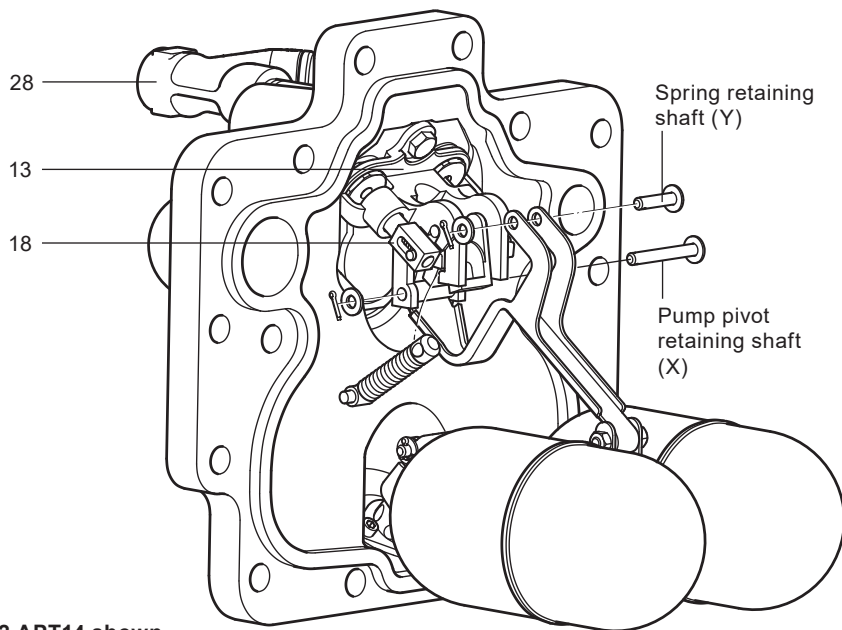
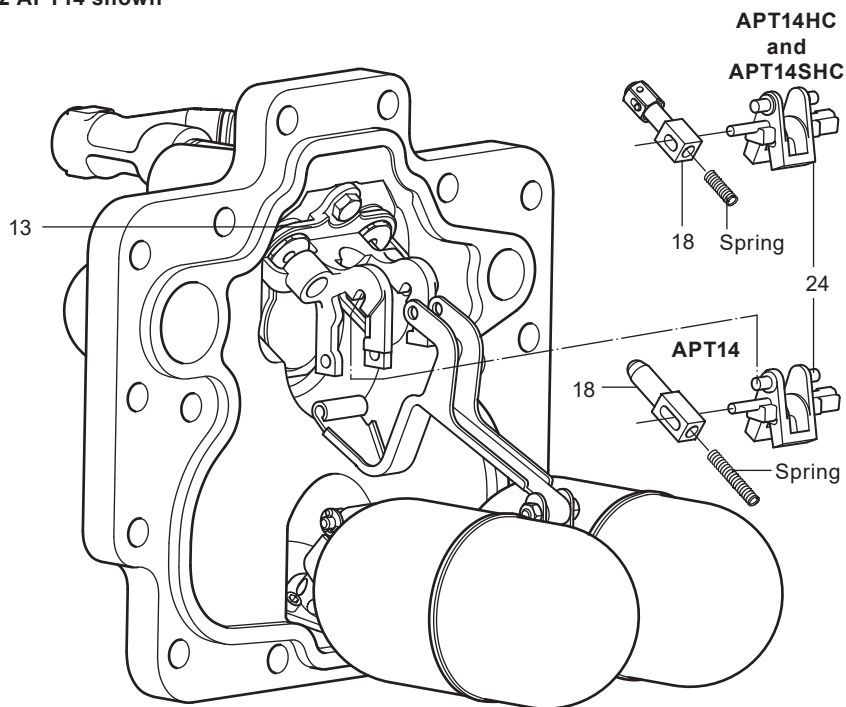

Fig. 22 APT14 shown
Fig. 23 APT14 shown
4. Remove split pins, washers, and shafts (X and Y) from the top spring pivot and pump pivot points (See Figure 22).
6. Draw the actuator arm with the exhaust valve downwards within its slots until it becomes free. It may be necessary to slide the exhaust valve (item 18) backwards against its internal spring to free it from the pump bracket guide (item 13), see Figure 22.
7. Remove the exhaust valve from the actuator arm (item 24, shown in Figure 23) being careful not to damage or lose the small exhaust valve compression spring.
9. **Fitting the new spring assembly and actuator arm is the opposite to removal.** Remember to compress the small spring within the exhaust valve (item 18) before refitting to the spigot of the new actuator arm.
10. Ensure the actuator is correctly aligned and located within the slots of the pump bracket (item 13) (see Figure 22).
12. Always use new split pins and washers when refitting the spring retaining shaft (Y) and pump pivot shaft (X).
15. Carefully reconnect the motive steam supply and the exhaust lines to the connections marked (S) and (E). The APT14, APT14HC or APT14SHC is now ready to recommission.
16. Make sure that the Spirax Sarco motive supply strainer (with 100 mesh screen) is reinstated to the motive supply connection (item 28, Figure 22).